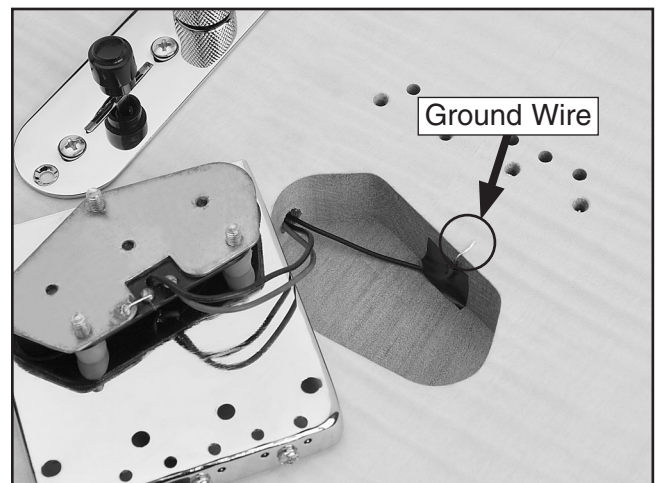

Figure 25. Ground wire above bridge cavity.
- Tape the ground wire so the exposed portion curls over the bridge cavity as shown in **Figure 25**.